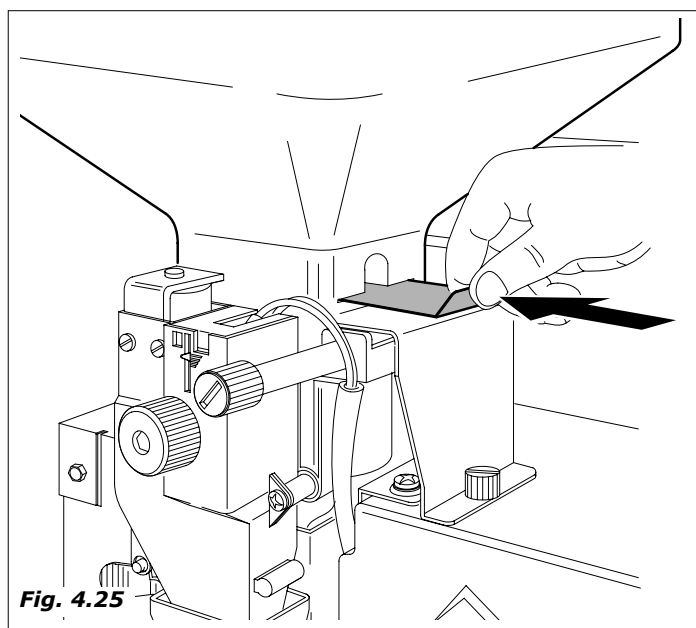

Fig. 4.25
- so as to effect the loading is necessary remove each container. Particularly, for the coffee bean container, it is necessary close the chute door before removing the container (Fig.4.25).